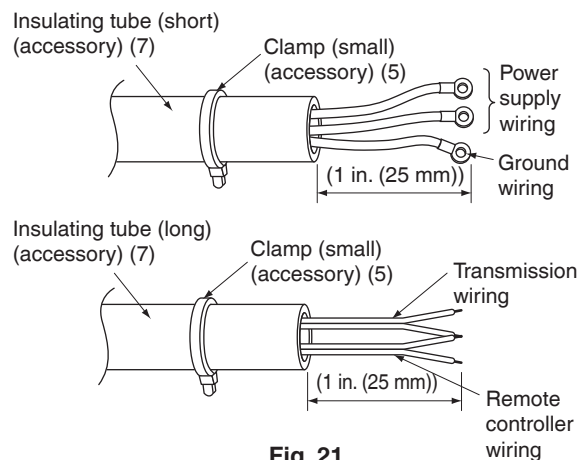

Fig. 21
Thread the power supply wiring and ground wiring through the included insulating tube (short) (7) and secure them with the included clamp (small) (5). **(Refer to Fig. 21)**
Thread the remote controller wiring and transmission wiring through the included insulating tube (long) (7) and secure them with the included clamp (small) (5). **(Refer to Fig. 21)**